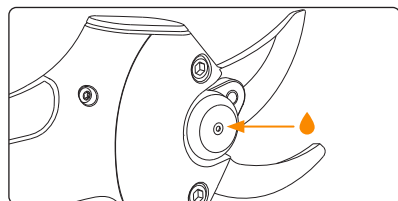

Figure 5: Lubrication hole location.
- Cutting and lower blades should be lubricated regularly by putting universal grease into the lubrication hole (small notch on axle as seen in Figure 5).